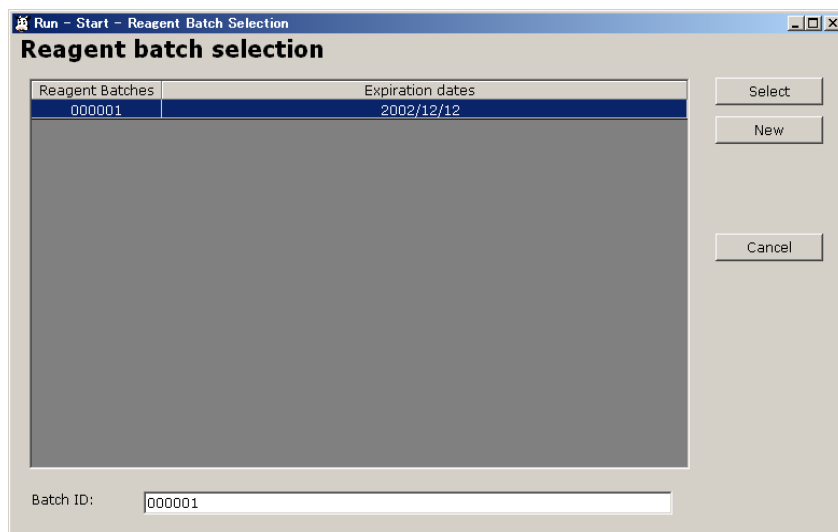

Fig. 8.2-1 : Reagent Batch selection
- (2) In the “Plate selection” screen, click the plate to be processed then click “Select” button. The Reagent batch selection screen will be displayed (Fig. 8.2-1).
From this point, you can also create a new reagent batch. Click “New” in the reagent batch selection screen (fig 8.2-1), then follow instructions on chapter 6.1, point (2).